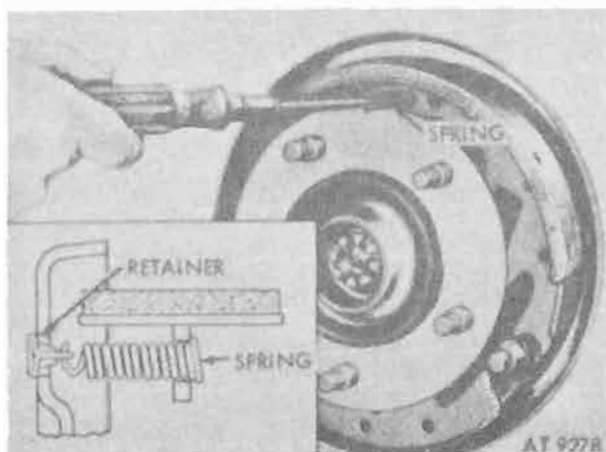

Figure 10-38. Brakeshoe holddown spring.
j. Install slotted-head screwdriver inside each brakeshoe holddown spring. Push screwdriver and turn to disconnect spring from spring retainer (fig. 10-38).